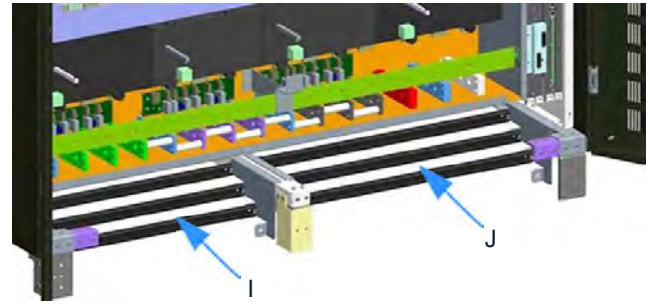

Figure 3.16
11. Fit two cable securing bars (I), (J) between the next set of lugs on profiles (A), (B), (C) as shown in Figure 3.16. Secure each bar using two M5 nuts and bolts tightened to 6.0 Nm.
13. *Note: For reasons of clarity the cables connected to the rear and middle holes are not shown in Figure 3.16.*